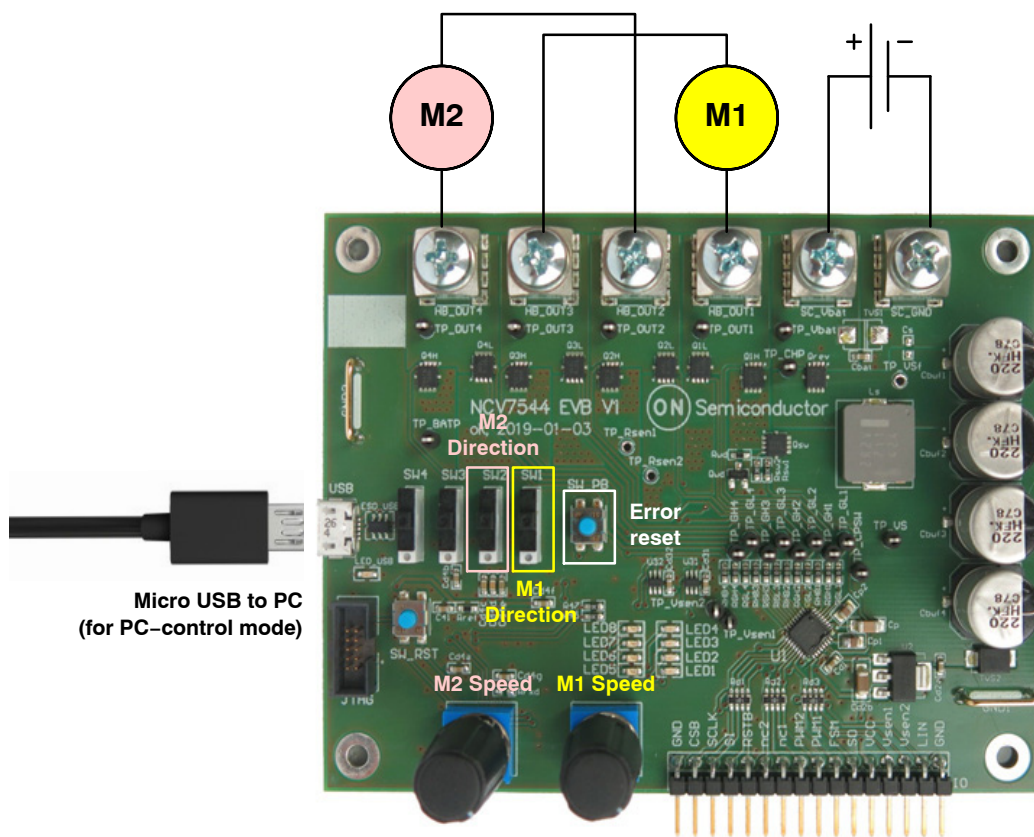

Figure 6. NCV7544 Evaluation Board Connections
1. Connect the loads to the screw bush connectors (see Figure 6). Supported loads are:
2. Connect the main supply (typ. 12 V) to “Vbat” and “GND” screw bush connectors (see Figure 6). The MCU starts in the Standalone mode automatically and NCV7544 is configured.
2. Connect loads to the bush connectors (see Figure 6).
3. Connect main supply to “Vbat” and “GND” bush connectors (see Figure 6).
4. Connect the board by a Micro-USB connector to a PC (see Figure 6).